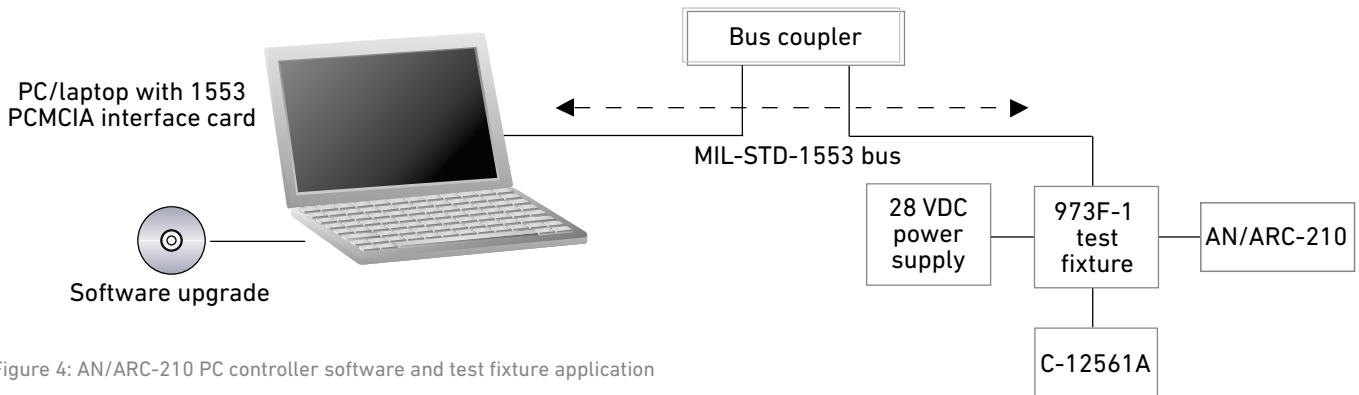

Figure 4: AN/ARC-210 PC controller software and test fixture application
The AN/ARC-210 PC controller software (Collins Aerospace part number 984-3451-003) is a Windows®-based software application that allows the user to control up to four AN/ARC-210 receiver-transmitters over the MIL-STD-1553B bus (refer to Figure 4 below). This part number includes a CD-ROM with the software, user's guide and installation instructions. This software requires the use of the same MIL-STD-1553B PCMCIA interface card (RCPN 270-2706-020 or 270-2706-030 or 270-3417-010) as used in the AN/ARC-210 reprogramming kits and is also compatible with the
The 973F-1 (Collins Aerospace part number 822-1888-001) is a 19-inch, rack-mountable test fixture that provides connections for the C-12561A RCU, AM-7526 high power amplifier, and the MX-11641 LNA/diplexer, in addition to one of the following receiver-transmitters: RT-1794(C), RT-1824(C), RT-1851(C), RT-1851A(C), RT1939(C), RT-1939A(C), RT1990(C) or RT-1990A(C) (refer to Figure 4 on the previous page). The fixture provides bus connections for an external MIL-STD-1553B controller, which makes it an ideal tool for system integration testing. In addition, the fixture provides test/connection points for radio discretes, data ports, fill ports and audio ports. The 973F-1 operates from 28 VDC and routes power for all connected AN/ARC-210 system components. (The power interface mating connector is supplied with the test fixture.)